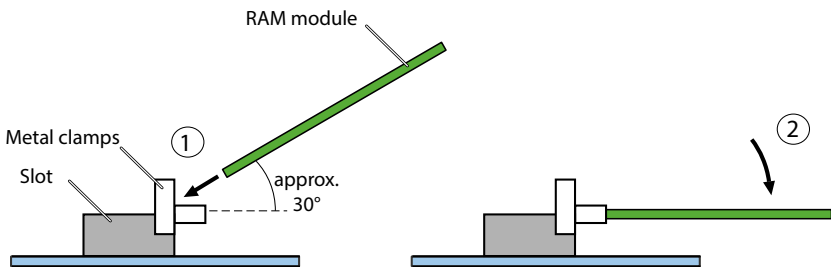

Fig. 72 Changing the RAM module
4. Place the module at a slight angle into the slot (see Fig. 72).